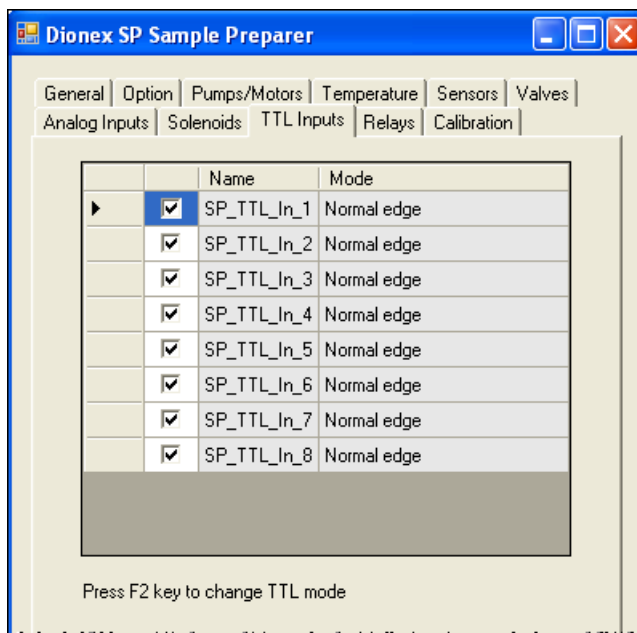

Figure C-17. SP Server Configuration Properties: TTL Inputs
3. Select the **TTL Inputs** tab (see Figure C-17).